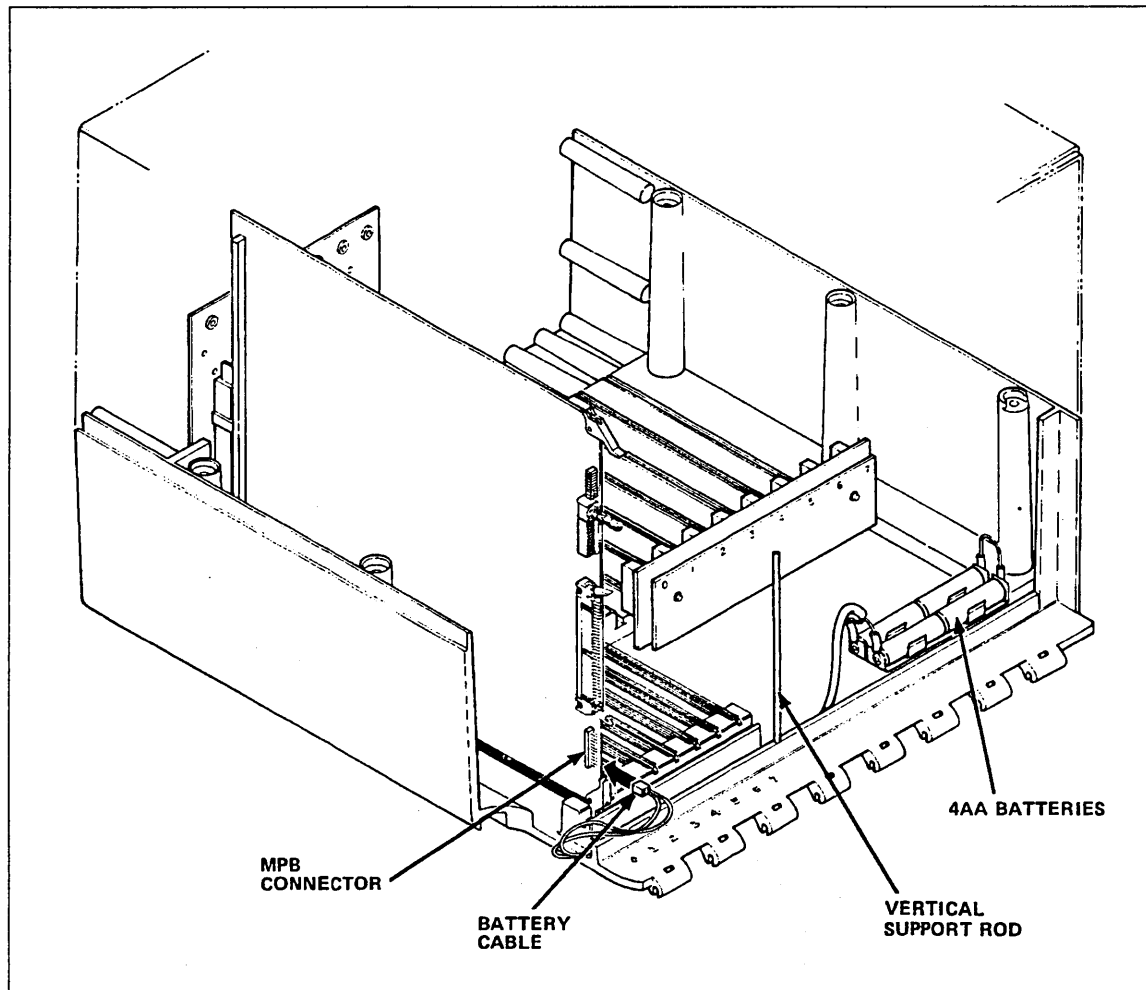

Figure 1-16. Connecting the Battery and MCO Cables
4. Refer to figure 1-16 and route the battery cable behind the vertical support rod and to the left side of the cabinet.